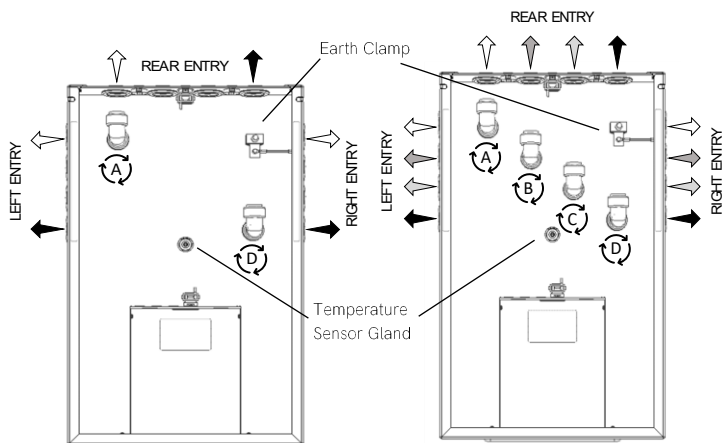

Figure 6 - Thermino ePlus Ports ((20- 60) left, 80 right)
- Rotate the elbows to the side you wish to connect the hydraulics (left, right or back) (Figure 6).
- For Thermino 20, 40 & 60 ePlus products, the cold water inlet must be connected to Port A & the hot water outlet to Port D (Figure 6, left hand side).
- For Thermino 80 ePlus products, the cold water inlet must be branched into Ports A & B and the hot water outlet branched into Ports C & D (Figure 6, right hand side).